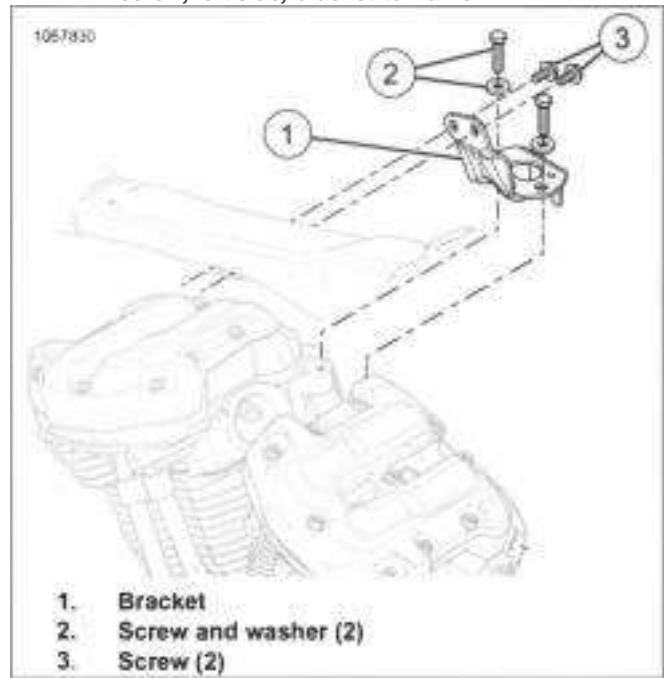

Figure 4-17. Left Side Engine Mount
1. See Figure 4-17. Remove bracket (1).
- a. Remove screws (3).
- b. Remove screws and washers (2).
- c. Remove bracket (1).
1. See Figure 4-17. Install bracket (1).
- b. Install screws and washers (2). Hand tighten.
- c. Install screws (3). Hand tighten.